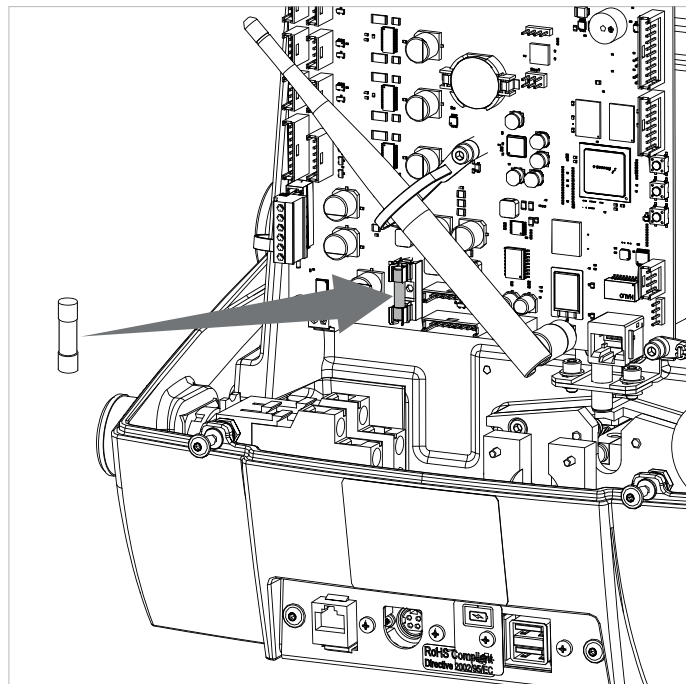

Fig. 43
- 3) Remove the fuse from its seat (Fig. 43) and replace if necessary.